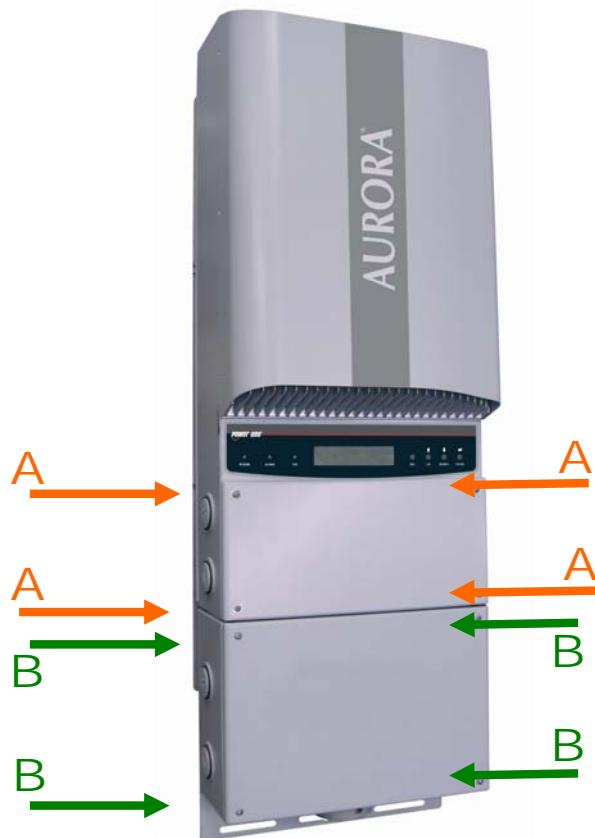

Fig.10 - AURORA with front panel and DC Switch
To remove the cover untighten the 4 screw shown in fig 10 in pos “a” using the flat screwdriver provided in the box with the inverter.
Step 4: Open the inverter cover(4 screw in pos "b" in fig. 10 and connect the signals cable (optional).Pass the cable inside the Switch Box trough the input knock outs pos "D" fig.11 "SB 01 – D.C. Switch Box Layout")and then inside the inverter trough the cable gland placed in the upper side of the switch Box; finally screw the cable in the appropriate terminal block inside the inverter.
Step 1: Remove the Switch Box front panel (remove the 4 screw in pos "b" in fig. 10)